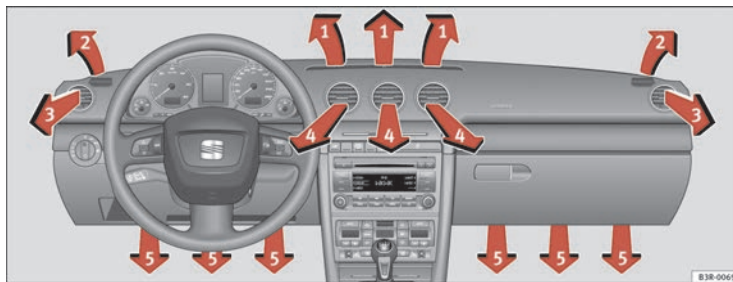

Fig. 143 Instrument panel: Location of air outlets
The air outlets ⇒ fig. 143 ③ and ④ can be operated as follows:
Each of the three buttons has a specific function. The numbers relate to the air outlets ⇒ page 167, fig. 143.
After the ignition is switched off, the blower is supplied with electrical power from the solar roof. Please ensure that outlets 3 and 4 are open ⇒ page 167, fig. 143 to ensure the best possible ventilation.